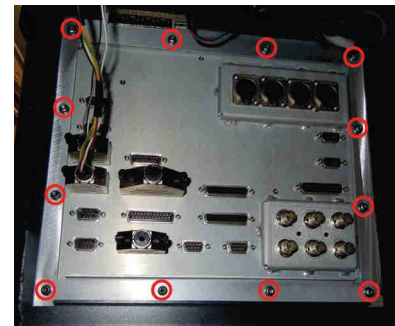

Fig. 7.19 12 screws
- 6 From the bottom of the cabinet, remove 12 Torx T20 screws holding the External I/O board (tools 1/8). The position of the screws is shown in Fig. 7.19 (p. 122).